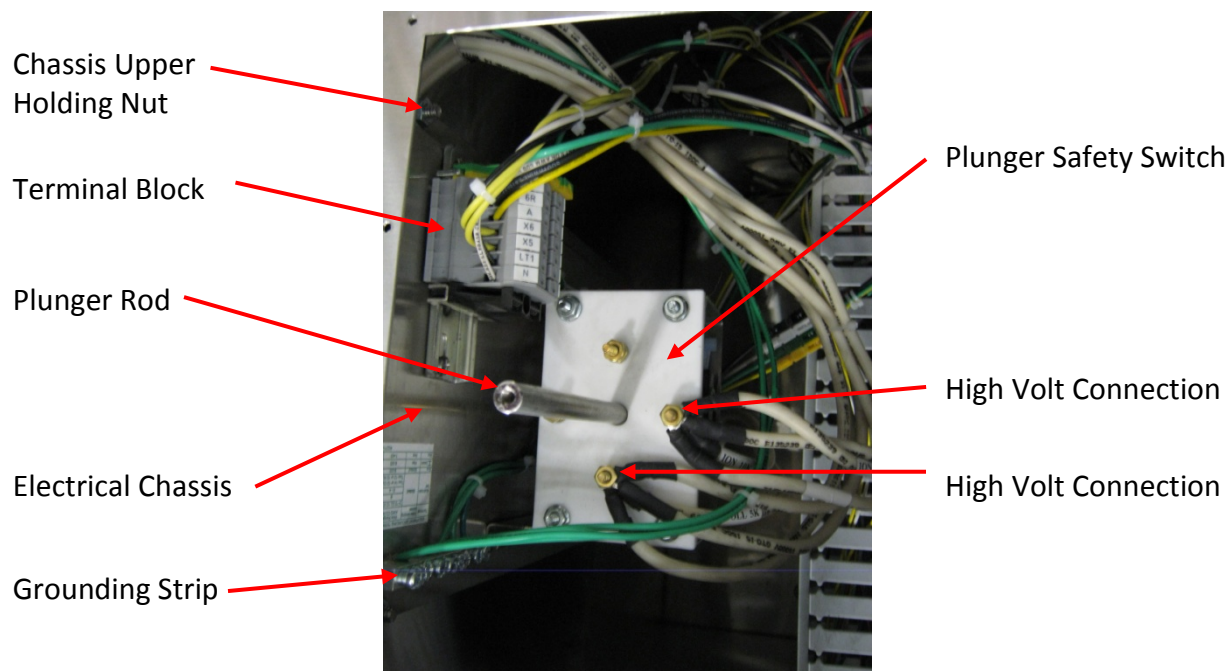

Figure 6-54-1
3. Push in the Plunger Safety Switch, and using a continuity tester test for continuity between terminals X3 and X4 on the terminal block in the Electrical Compartment (Refer to Figure 6-54-1). If there is continuity the micro switch is good. If there is not continuity the micro switch must be replaced. The electrical chassis must be removed to repair or replace the micro switch. Refer to Page 6-54 for instructions.
2. **Extreme Caution:** Before removing the high voltage wires from the Safety Plunger Switch it is first necessary to check for residual voltage from the Transformer(s). Clip the ground wire from the high volt meter to the Plunger Rod (Refer to Figure 6-54-1). Place the high volt probe on the 10 KV terminal and then the 5 KV terminal. If there is no voltage proceed to step #3. If there is voltage troubleshoot and repair.
3. Disconnect the 10 KV and 5 KV wires from the Safety Plunger Switch (Refer to Figure 6-54-1).